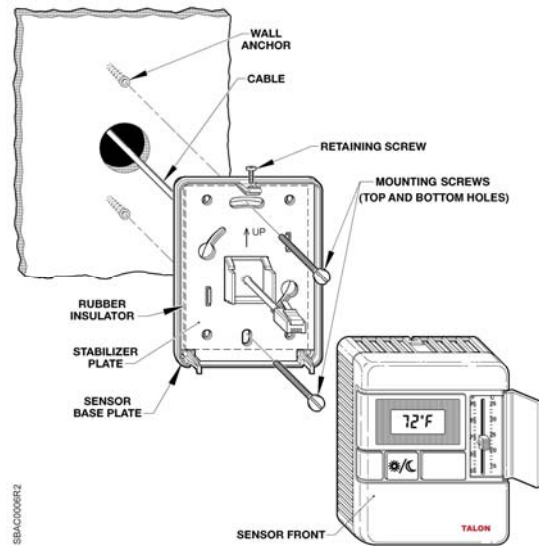

Figure 3. Drywall Mounting (No Rough-in), Typical.
5. If necessary, use a utility knife to cut a slit through the rubber insulator in the center hole of the sensor base plate. Pull about 3 inches (75 mm) of the cable through the mounting hardware in the order shown. See Figure 3.
12. Tighten the sensor retaining screw with an Allen wrench. See Figure 3.